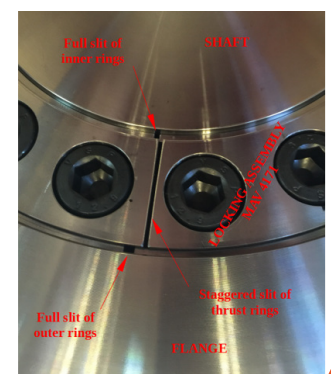

Fig. 6 Detail of slits alignment
1. If necessary, take the Locking Assembly MAV 4171 apart from the flange. Make sure that the centering ring is secured to one flange during tightening of the Locking Assembly MAV 4171. Make sure that screws, rings, shaft and flange bore contact surfaces are clean and oiled and that all collar slits are aligned (fig. 6). **DON'T USE low friction lubricants** based on MoS2, graphite, copper and other similar components (e.g., Molykote, Never-Seeze or similar products).